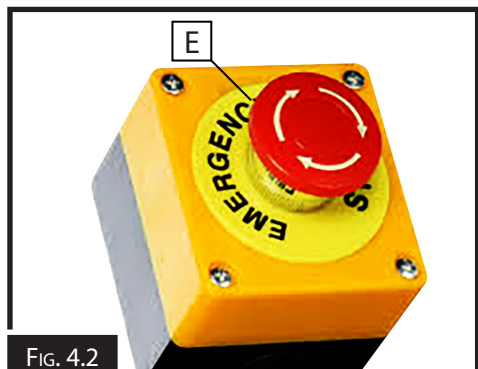

FIG. 4.2
E. Emergency Stop Button. When pressed stops the machine and locks access to the power supply. To unlock and reset the stop button twist the red top in the direction of the arrows to allow the red button to pop up. (Fig.4.2)